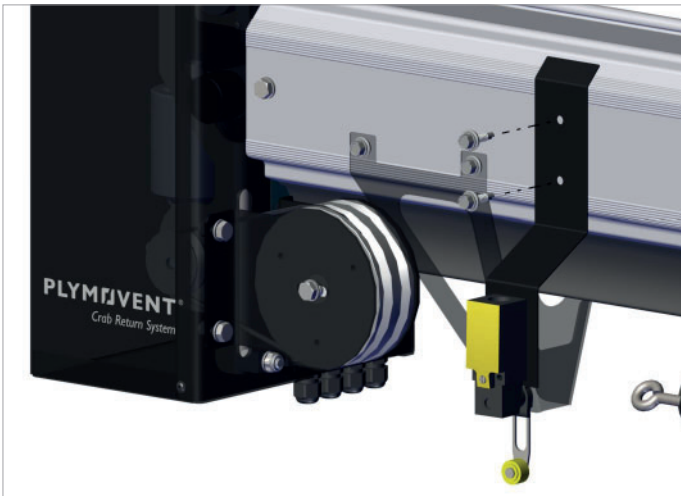

Fig. 4.3.8 Mounting the CRS Auto Return Switch bracket
- Mount the CRS Auto Return Switch bracket at approx. 1 in. (25 mm) next to the stop bracket using self-tapping screws $\frac{1}{4} \times 1$ in. (6.3 x 25 mm). Please note that the rubber bumper on the crab should almost hit the stop bracket when the CRS Auto Return Switch is activated. Refer to fig. 4.3.8.